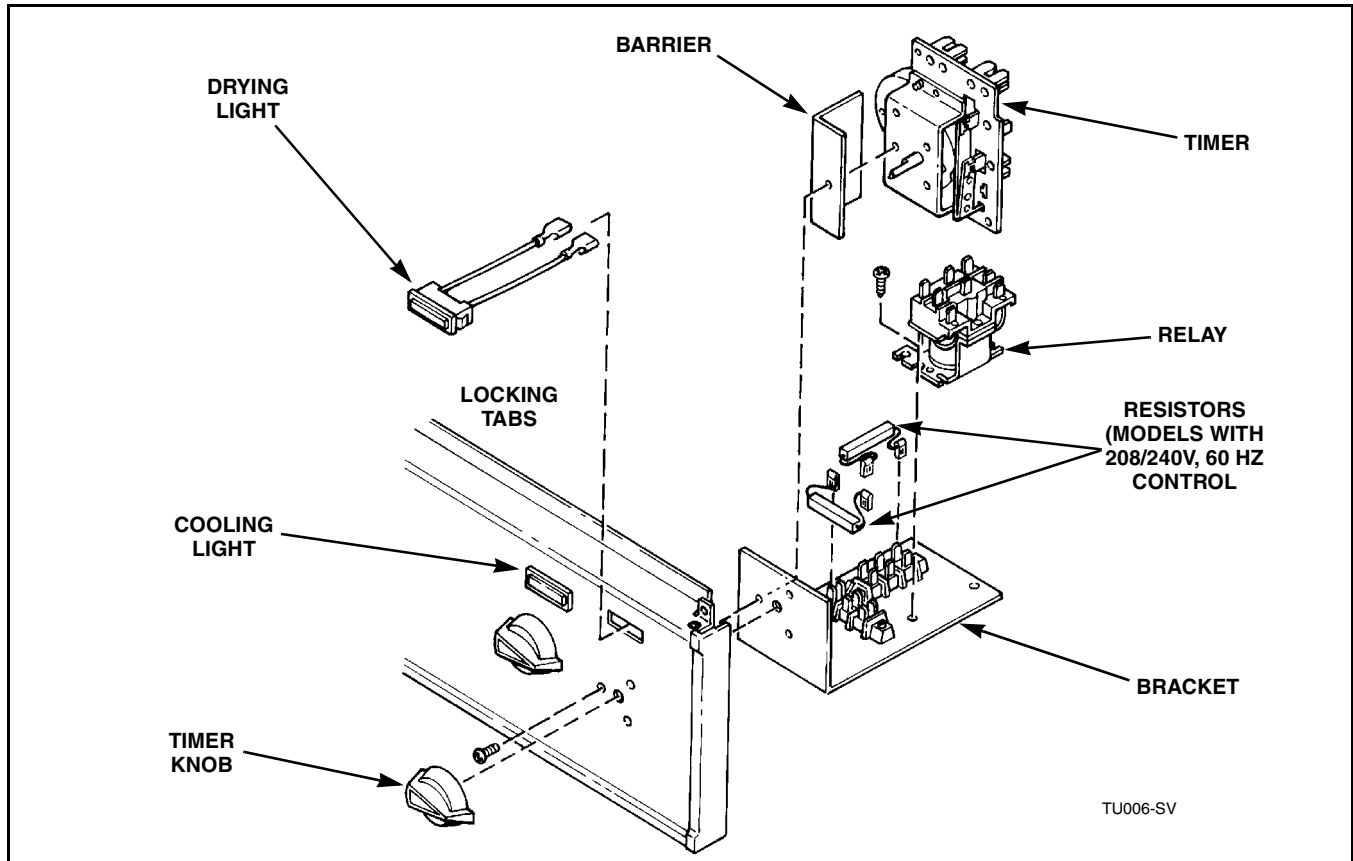

Figure 5
- c. Compress locking tabs on sides of light and push light through front of control panel. (Refer to *Figure 4*, Coin Models; Refer to *Figure 5*, Manual Timer Models).
Refer to *Figure 5*.
- b. Disconnect resistor leads. Refer to *Figure 5*.
- b. Pull timer knob off timer shaft. Refer to *Figure 5*.
**IMPORTANT:** Be sure barrier is installed in proper position when reinstalling drying timer. Refer to *Figure 5*.
- (1) Pull timer knob off timer shaft. Refer to *Figure 5*.
- (2) Remove three screws holding timer to control panel or mounting bracket.
- (3) Remove wires from timer terminal board, and timer motor lead from terminal block.
- (4) Connect timer terminal wire 3 to terminal board terminal B.
- (5) Connect timer terminal 5 wire to terminal board terminal C.